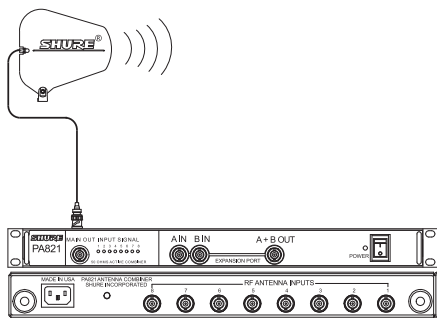

FIGURE 1
2. Attach an antenna to the **MAIN OUT** of PA821. For wideband applications, use PA805SWB directional antenna (Figure 1).
NOTE: When the PA821 is powered on, the input signal indicators (1-8) on the front panel will illuminate if an active transmitter is connected to the corresponding input (1-8) on the back panel (Figure 1).